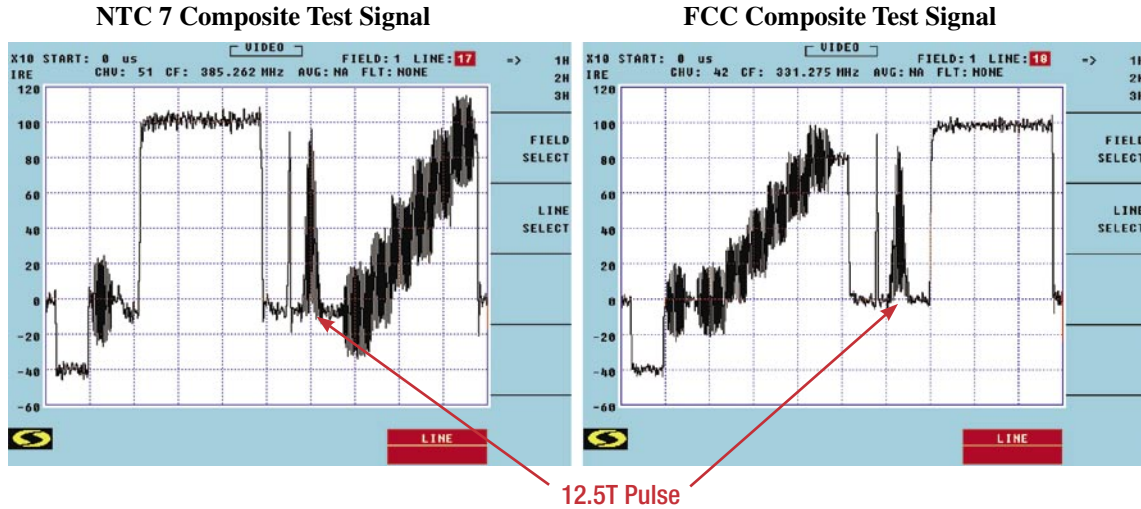

Figure 2
There are many different types of VITS, but two of the VITS signals that can be used are the NTC-7 Composite test signal and the FCC Composite test signal. Both contain what is known as a 12.5T pulse that is a combination of a luminance and a chroma signal. These 2 signals as seen on an AT2500RQV are shown and labeled in Figure 2; they are basically mirror images of each other.
4. To select the correct field and line, press the **SPAN** key, then the line select soft key. Using the up and down arrow keys, search for either the NTC 7 signal or the FCC as shown in Figure 2 above, then press the escape key.
9. Press the Save Set up soft key and the analyzer will return to the original screen as in Figure 2.